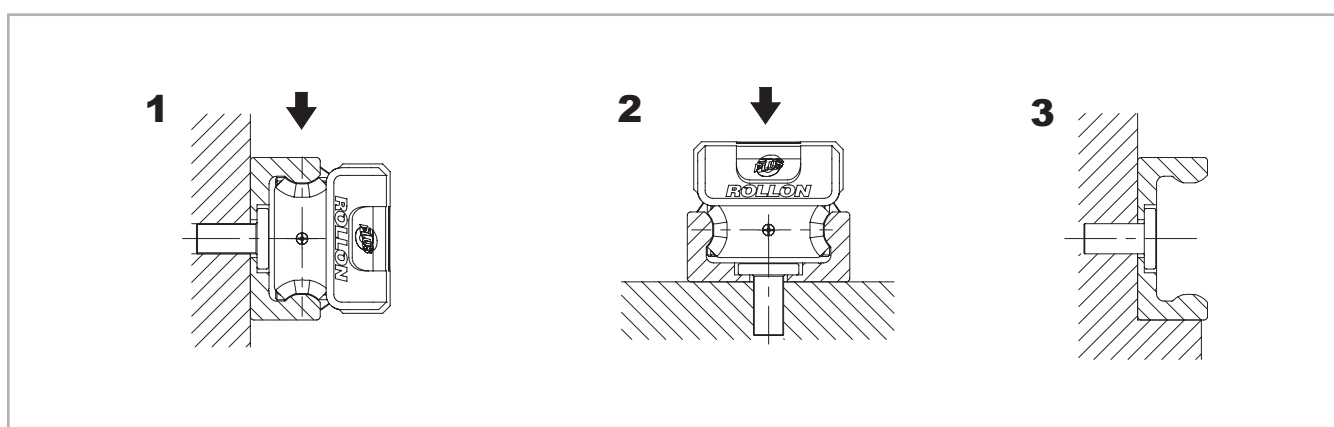

Fig. 64
The rails can be installed in two positions relative to the external force. For axial loading of the slider (fig. 64 pos. 2), the load capacity is reduced because of the decline in contact area caused by the change in position. Therefore, the rails should be installed in such a way that the load on the rollers acts in the radial direction (fig. 64, pos. 1). The number of fixing holes in the rail in combination with screws of property class 10.9 is dimensioned in accordance with the load capacity values. For critical applications with vibrations or higher demand for rigidity, a support of the rail (fig. 64, pos. 3) is advantageous.